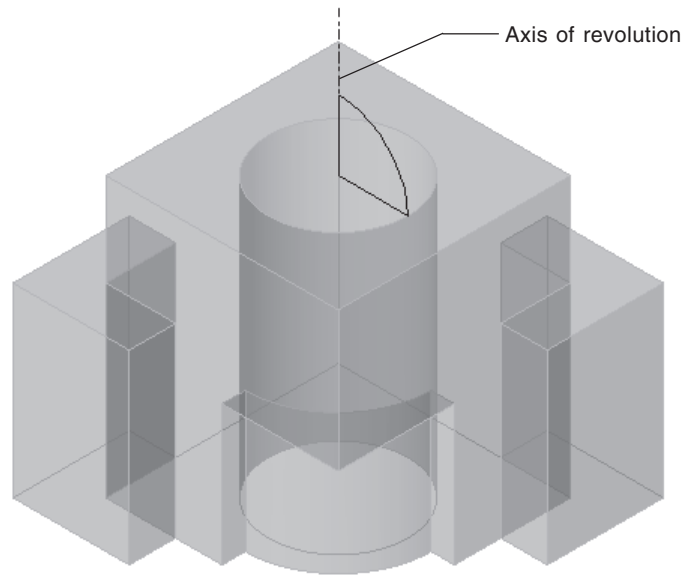

Figure 9-48 Sketching the axis of revolution for the dome
12. From the center of the dome, sketch a line vertically upward, as shown in Figure 9-48, to define the axis of revolution.